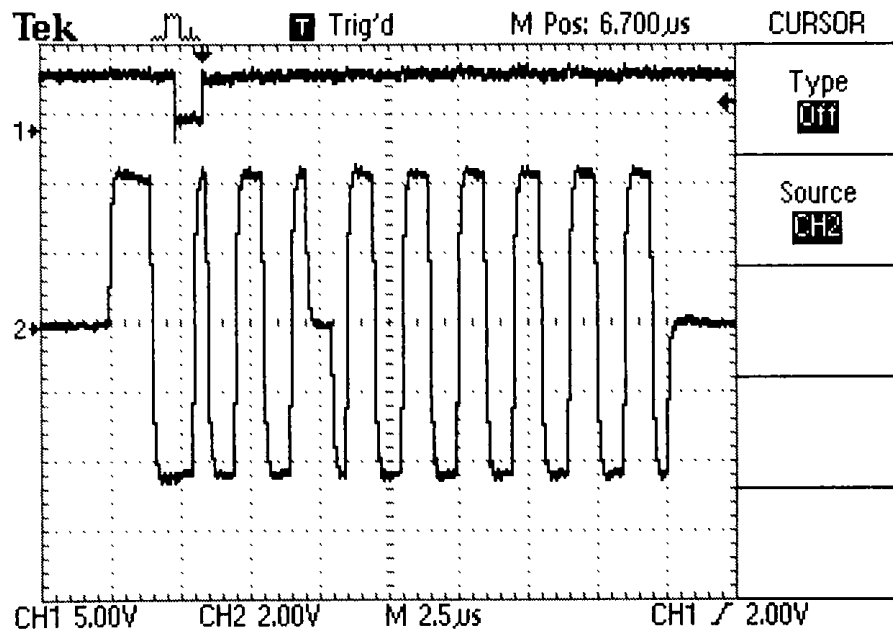

Figure 455-19: Dropped Bit
Dropped Bit Error. Follow the steps below to hold the reference level at 0.0V for the bit transition time. Release the reference level for the next transition. Refer to Figure 455-19.
3. Verify that a bit has been dropped in the same position as Figure 455-19.